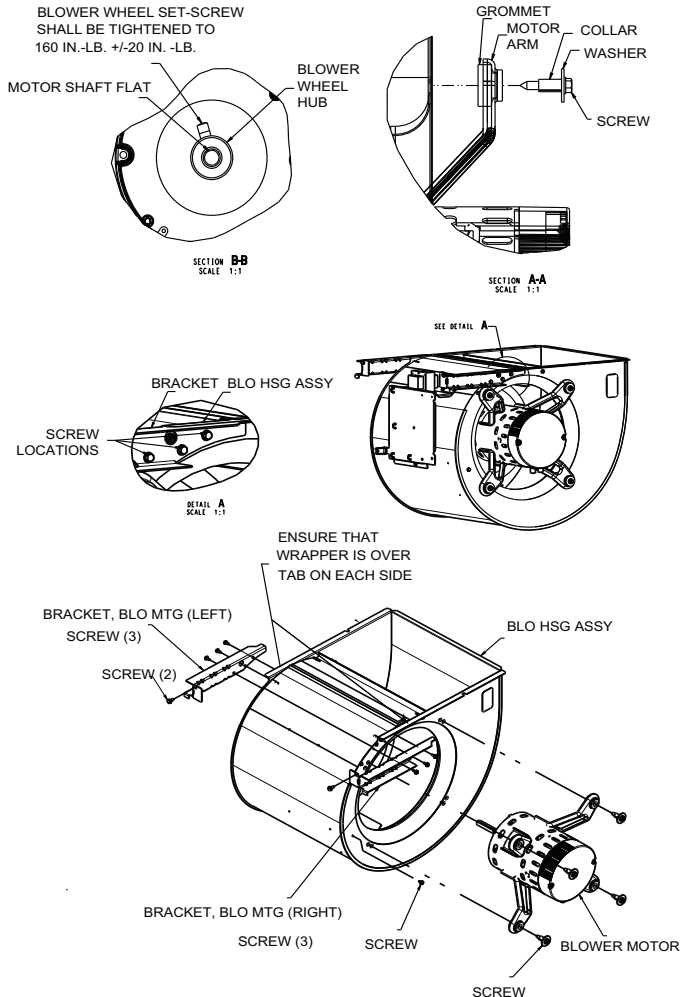

Fig. 67 – Blower Assembly on 100M21-22
NOTE: On 100M21--22 size, the top screw securing blower to shelf must be removed in order to remove the blower. (See Fig. 67)
- NOTE:** On 100M21--22, ensure that the blower wrapper sits on top of the two tabs on blower sidewalls. (See Fig. 67)